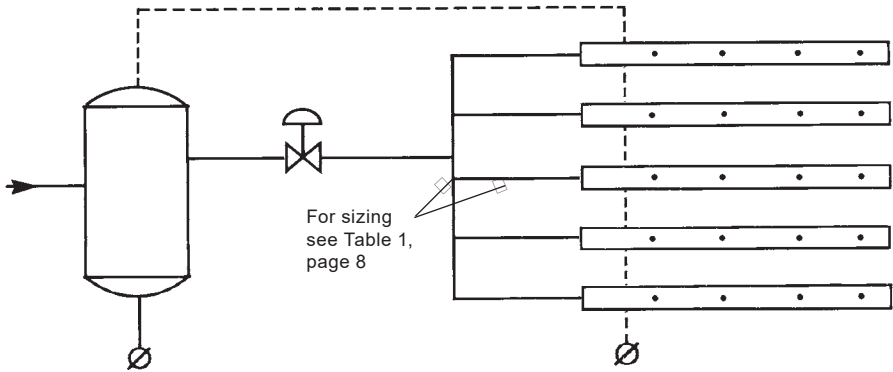

Fig. 11
- 3.3.8 Figures 11, 12 and 13, page 13, give recommendations for piping up the main steam supply, trapping arrangements and manifolding for a variety of multi-lance and vertical lance installations.